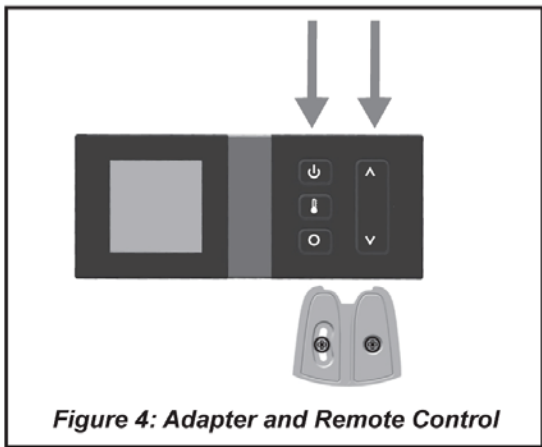

Figure 4: Adapter and Remote Control
- Insert the remote control onto the adapter as shown in Fig. 4.